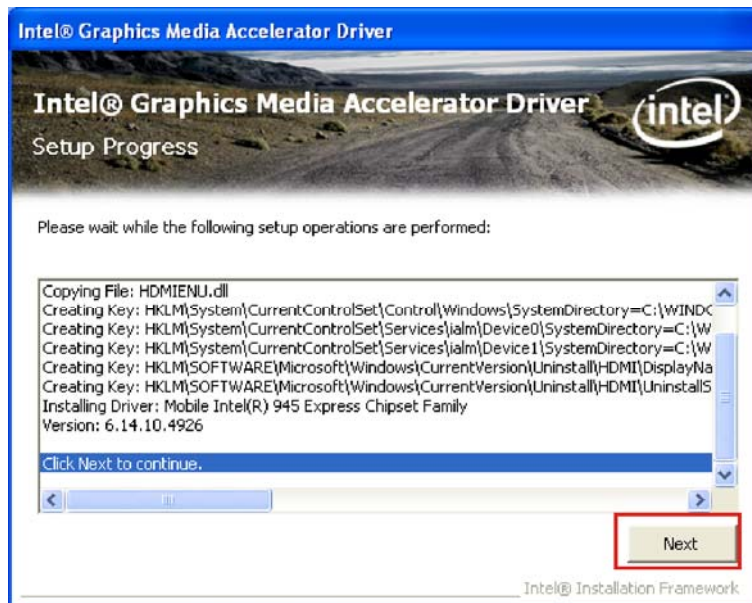

Figure 7-11: VGA Driver Setup Operations
Step 28: **Setup Operations** are performed as shown in Figure 7-11.